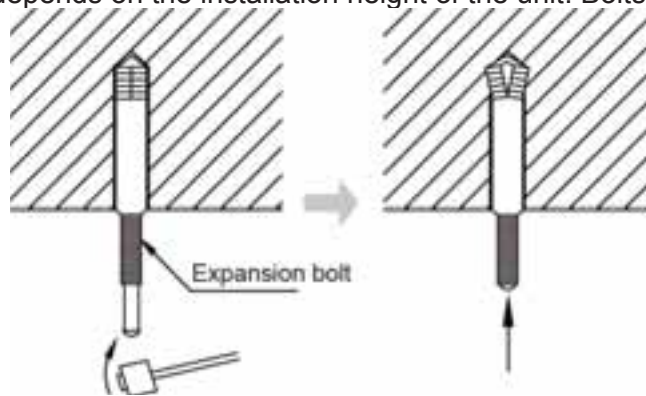

Fig 4.1.5
2) Insert the M10 expansion bolt into the hole and drive the nail into the bolt, as shown in Fig4.1.5.